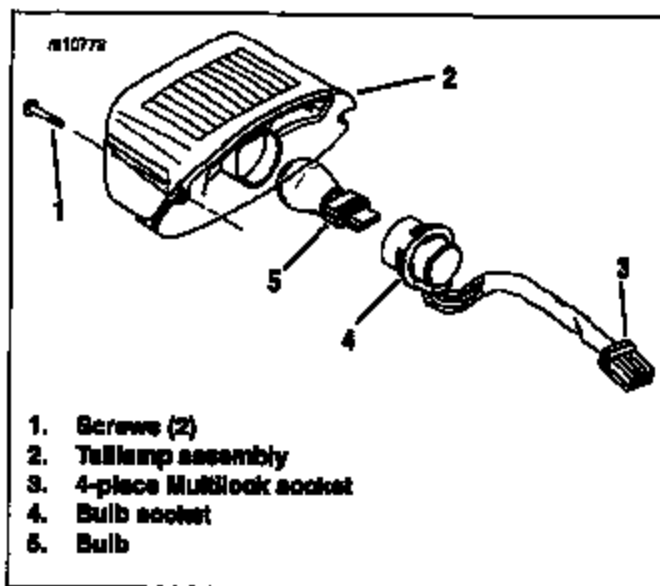

Figure 2. Tailamp Assembly
1. See Figure 2. Remove two screws (1) from lens to release tail lamp assembly (2) from chrome bracket at back of rear fender. Carefully pull tail lamp assembly from bracket.
2. Depress button at bottom of 4-place Multilock socket (3) to release tail lamp assembly from pin housing.
3. Rotate bulb socket (4) 1/4 turn counterclockwise and pull socket and bulb from tail lamp assembly (2).
5. Insert replacement bulb in bulb socket (4) and press bulb into socket so lock tabs on bulb engage locking slots in socket.